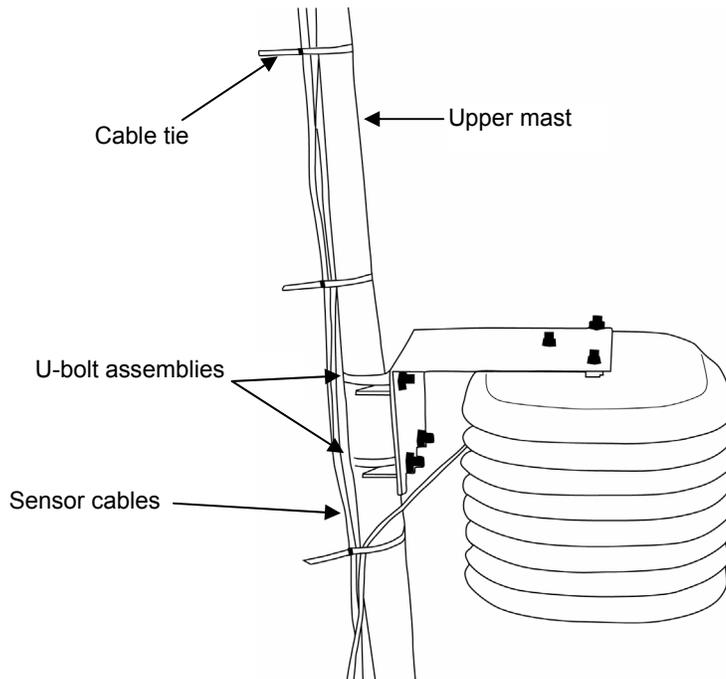

Figure 41: Securing the sensor cables on upper mast
- Use cable ties to secure cables to the mast (see Figures 41 and 42). Also secure any cables running to remote sensors to the mast or to one of the tripod legs.